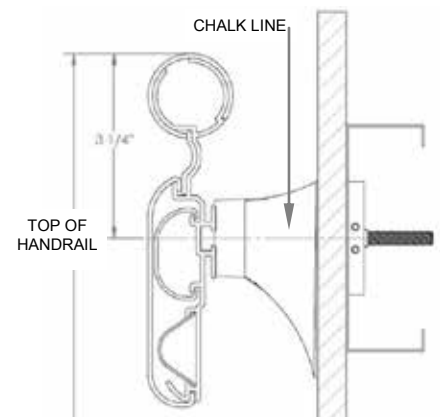

Figure 2
STEP 1. Using the correct plans, layout guides and local code requirements layout and mark the location of the handrail on the wall at the appropriate height above the finished floor. Measure 3-3/4" down from the desired top of the handrail and mark this location at each end of the run (See Figure 2). Snap a chalk line, or use a laser level to mark the height of the standoff fasteners.